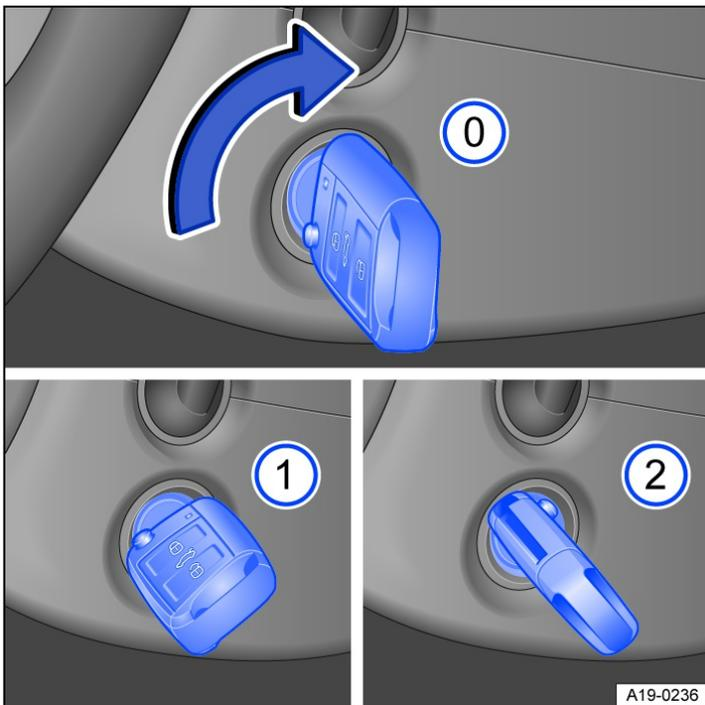

Fig. 1 To the right of the steering wheel: positions of the vehicle key in the ignition lock.
Vehicle key positions → Fig. 1
- ③ Press the brake pedal when the indicator lamp  lights up green. Start the engine. Release the vehicle key as soon as the engine starts. Once released, the vehicle key moves back to position → Fig. 1 ①.